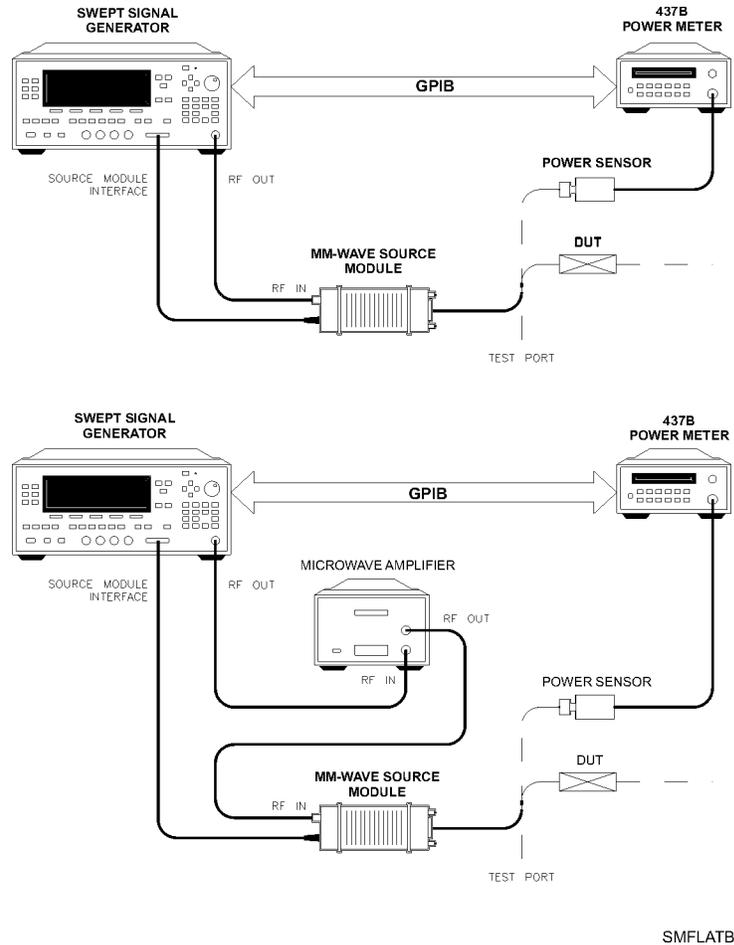

Figure 1-20.
1. The equipment setup shown in Figure 1-20 assumes that you have followed the steps necessary to correctly level the configuration. If you have questions about external leveling, refer to “Externally Leveling the Swept Signal Generator”.